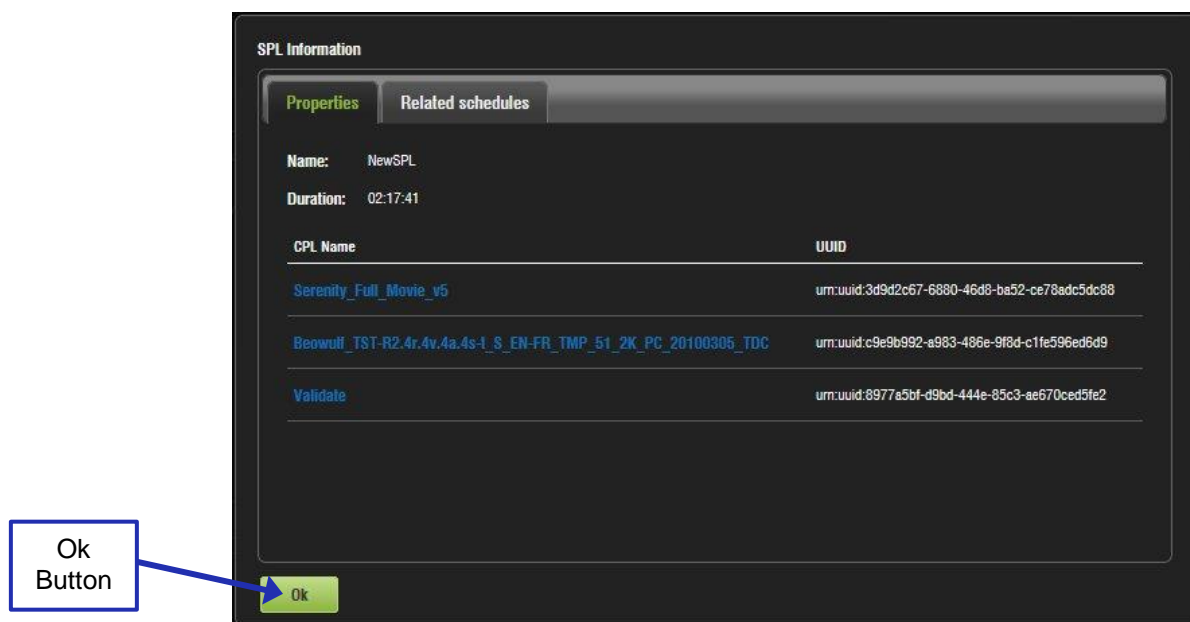

Figure 290: SPL Information Window
- For more information on a specific SPL, select the desired SPL from the Name column and click on it. This will open the SPL information window Properties tab that will show all the names of the CPLs inside that SPL (Figure 290).
- Click Ok to return to the CPL Properties window (Figure 290).